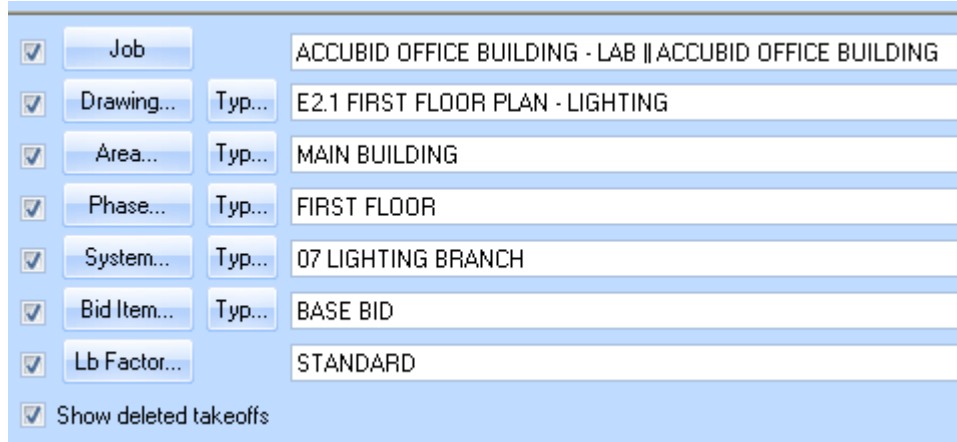

Figure 4
14. Change the Breakdown as shown in Figure 4 and repeat the steps for the First Floor Lighting Branch. Be sure to edit the Takeoff Label, i.e 1/2" EMT STRUT MNT 4#12 – FIRST FLR LTG